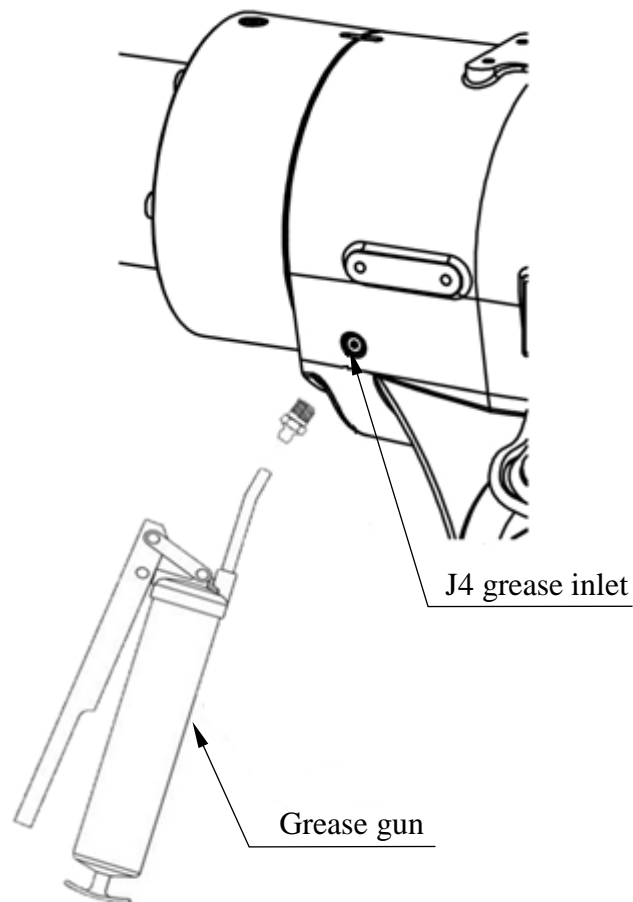

Figure 5-7 Grease replenishment
- Step1. The grease inlets and the air vents of the robot are shown in Figure 5-7.